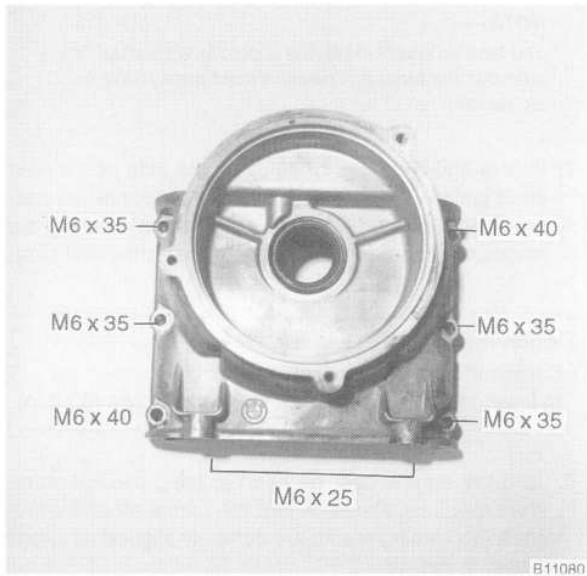

Fig. 39. Upper timing chain cover. Note different length bolts.
19. Remove the upper camshaft timing chain cover. See Fig. 39.